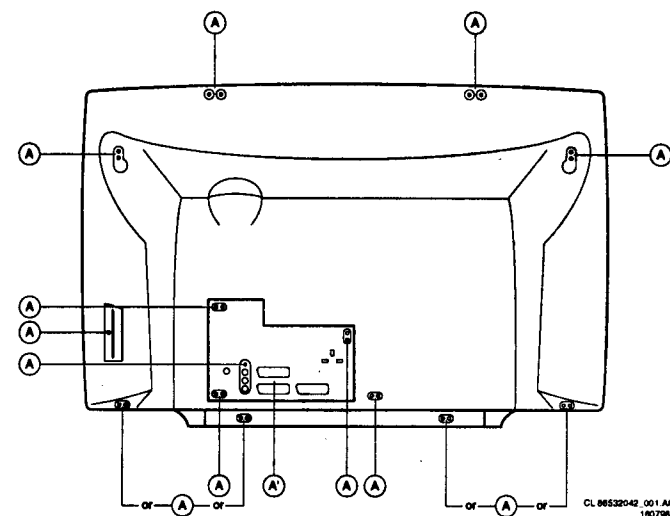

Figure 4-1
1. Remove the fixation screws (A) of the rear cover, notice also the side-I/O-screw; see figure 4.1 (A') screw only valid for 3-scant configuration.